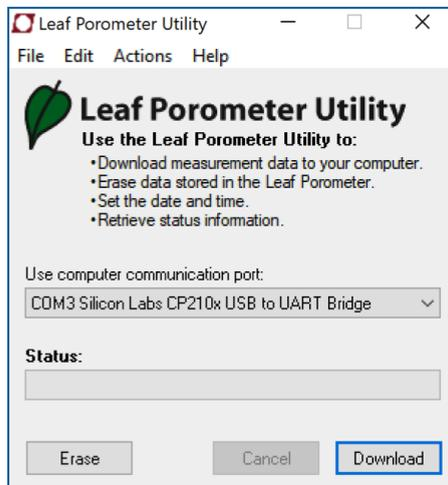

Figure 23 Leaf Porometer Utility main window
3. Open Leaf Porometer Utility (Figure 23).
5. Click Erase (Figure 23).